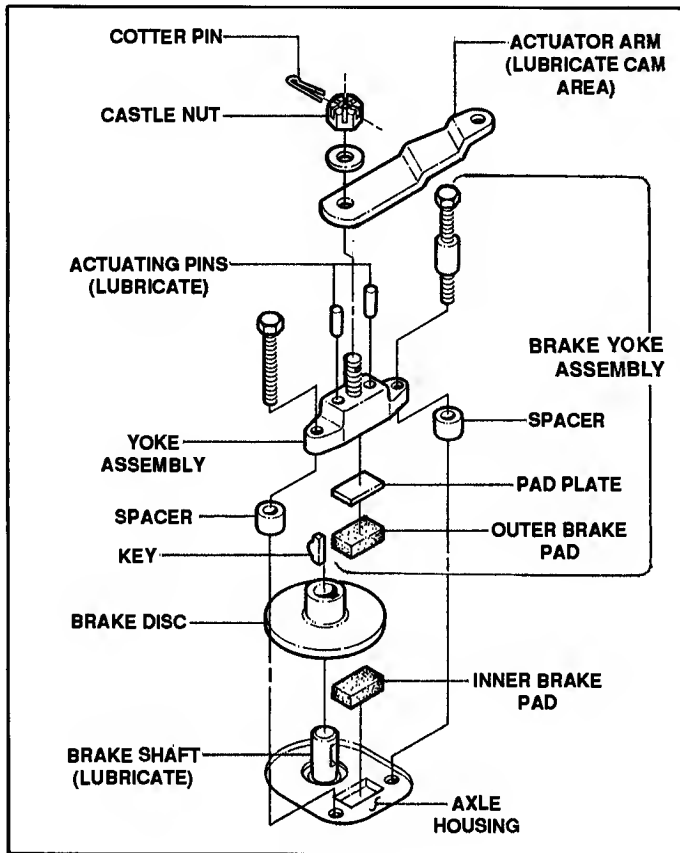

FIGURE 10.7
9. Install inner brake pad in axle housing. See Figure 10.7.